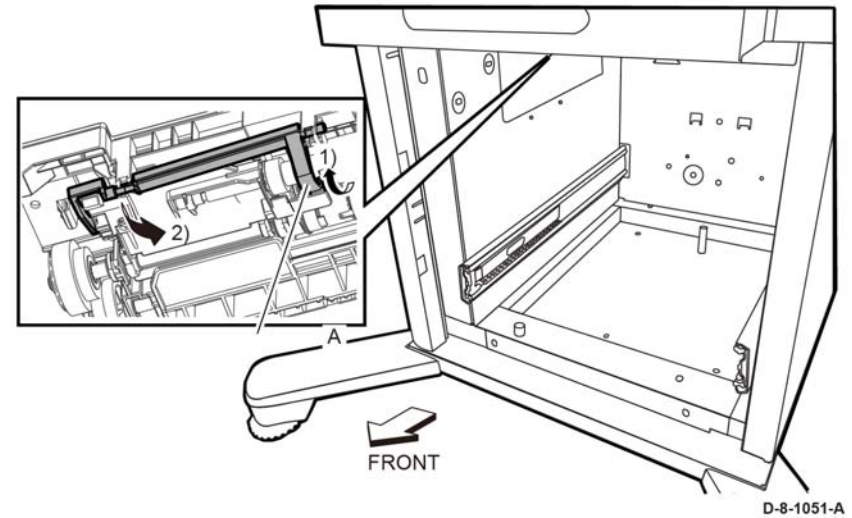

Figure 2 Removing the no paper actuator
4. Release tab A of the no paper sensor in the direction of the arrow, then fully rotate the actuator, Figure 2.
1. Rotate the no paper actuator tab, labelled A in Figure 2.